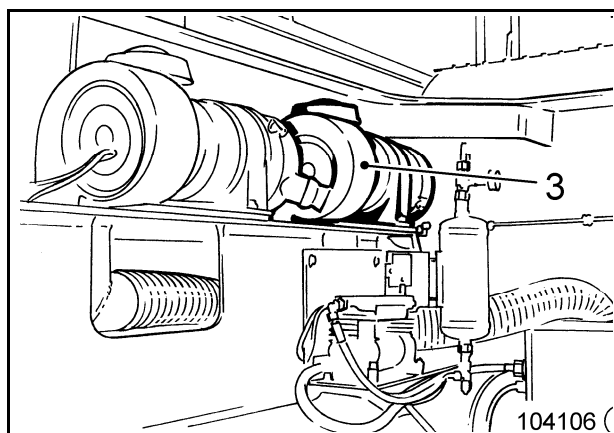

Fig. 3-26:
- For the 24 V system (3, Fig. 3-26:).